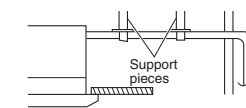

Fig. 3-29
- Do not apply force to the piping on the unit side when connecting the drain pipe. The pipe should not be allowed to hang unsupported from its connection to the unit. Fasten the pipe to a wall, frame, or other support as close to the unit as possible. (Fig. 3-29)